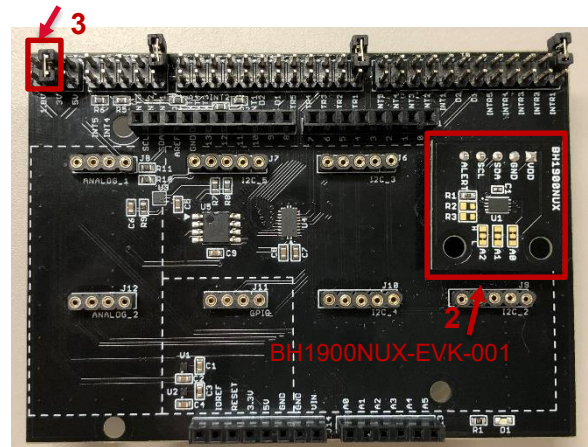

Figure 2. Connection between BH1900NUX-EVK-001 and the SensorShield
2. Connect BH1900NUX-EVK-001 to the socket of I2C area on the SensorShield (Figure 2)
3. Set Voltage of the SensorShield to 3.0V (Figure 2)